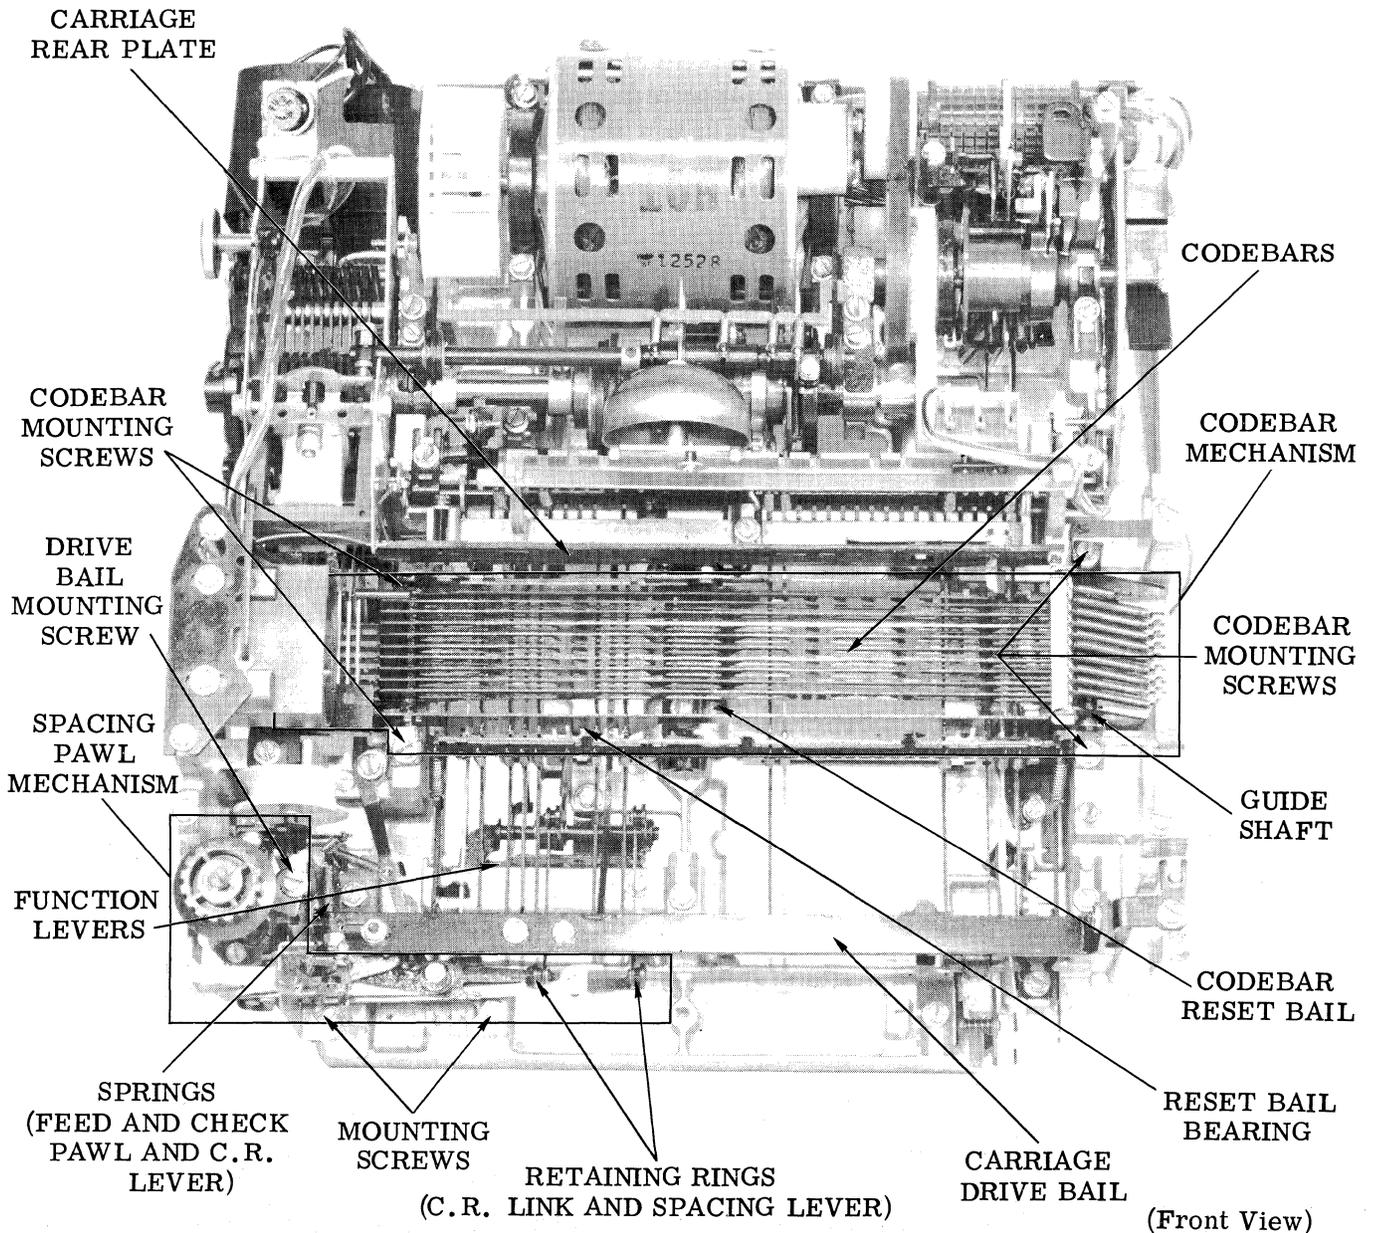

Figure 2 - Typing Unit (Carriage and Platen Removed)
2.05 To remove codebar reset bail (Figures 2 and 3), proceed as follows.
2.06 To remove spacing pawl mechanism (Figure 2), proceed as follows.
- 2.12 To remove function box mechanism (Figures 2, 4, and 7), proceed as follows.